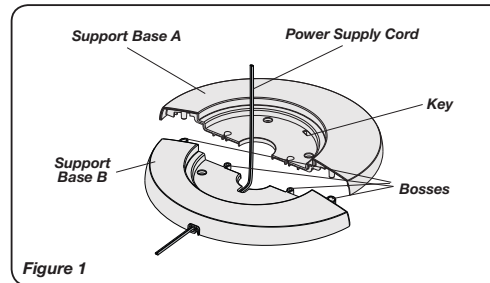
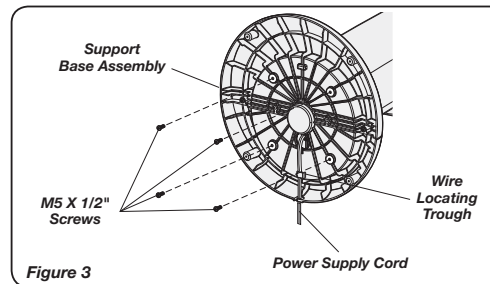

Figure 1
Figure 3
2. Assemble the Support Base Halves by interlocking the bosses on **Support Base A** into the **Boss Holes** on **Support Base B**. Thread the **Power Supply Cord** through the large hole in the center of the **Support Base Assembly**. (Figure 1)
4. Align the **Support Base Assembly** with the **Motor Base**, noting that the cord channel on the bottom of the **support base assembly** should be towards the back of the Fan. Attach the **Support Base Assembly** to the **Motor Base** with (4) 1/2" long M5 screws. Make certain to align the **Key** on the **Support Base Assembly** with the **Locating Notch** on the **Motor Base**. (Figure 1) Gently pull any excess slack of the **Power Supply Cord** and place it in the **Wire Locating Trough**. (Figure 3)